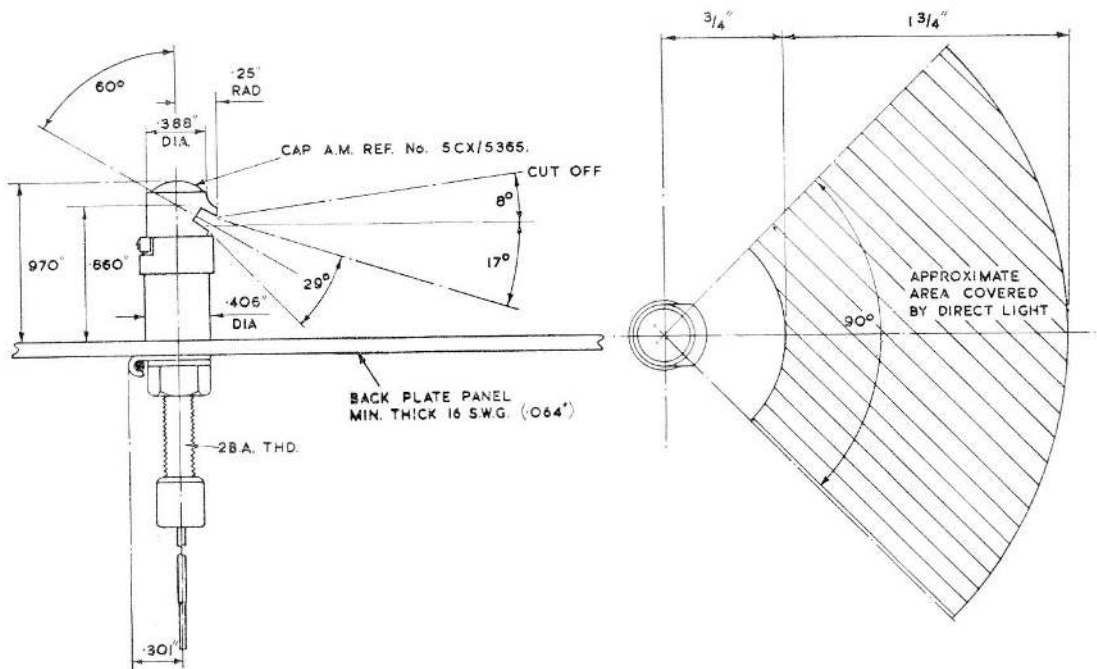

Fig. 3. Installation diagram
5. An installation diagram is shown in fig. 3 and clearly indicates the dimensions of the lamp and the area of illumination. The threaded stem shown in the diagram may be either 1 in. or $\frac{1}{2}$ in. in length according to the thickness of panel to which the lamp is to be fitted.